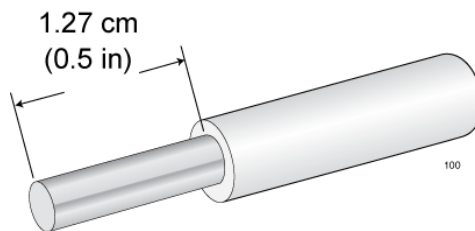

Figure 50. Stripping the Grounding Wire
1. Prepare an adequate length of stranded grounding wire (10 AWG) for the ground connection by stripping it as shown in Figure 50.